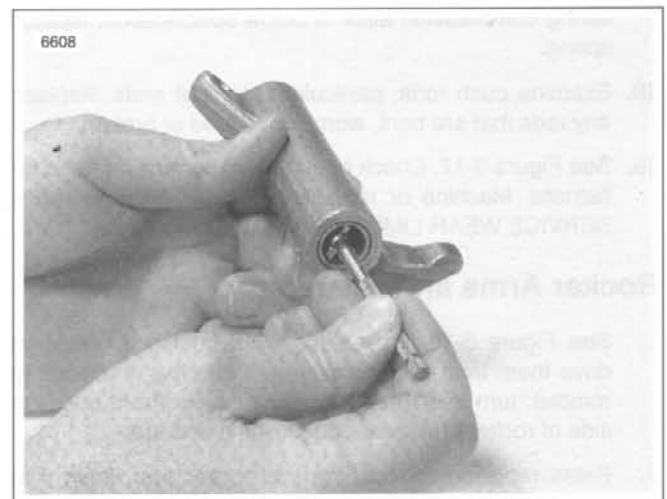

Figure 3-15. Measuring Rocker Arm Bushing Inner Diameter
- b. See Figure 3-15. Measure rocker arm bushing inner diameter.